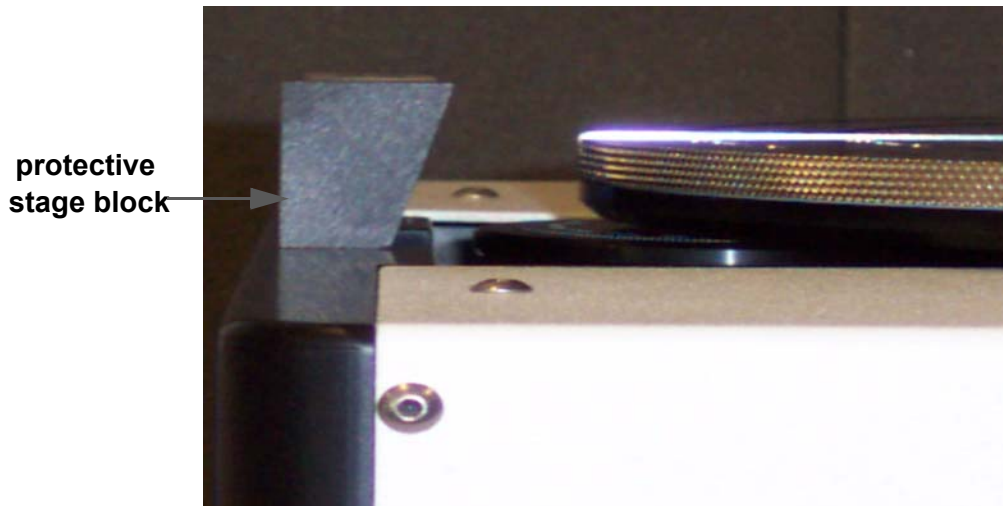

Figure 2.7: Stage block used to protect stage during shipping. Slide block between stage in its *Home* position and the front panel until it is snug.
6. **Install** the stage block as shown in Figure 2.7. Slide the block between the stage and front panel until it is snug.